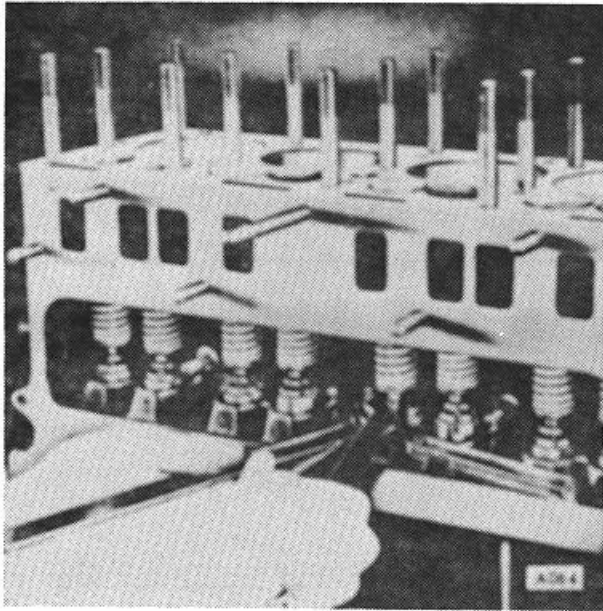

Figure 63.
5. Make certain the gasket surfaces are flat and clean, before assembling the oil pan with new gaskets. Tighten screws in accordance with specified limits. When engine is assembled and filled with proper oil, set tappets. (Fig. 63) See Specification Listing.